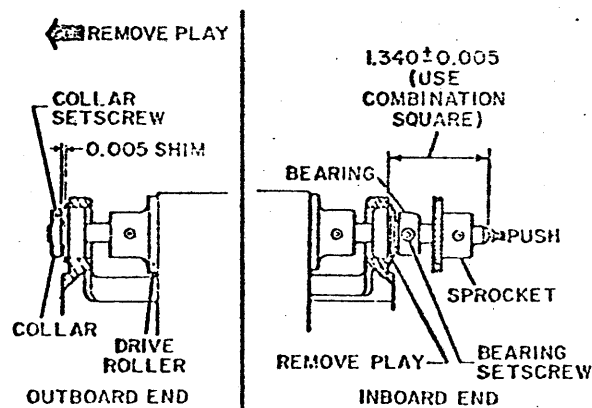

Fig. 3-98. Drive Roller
3. Loosen setscrew on collar and shim to 0.005 as shown (Fig. 3-98). Tighten setscrew.